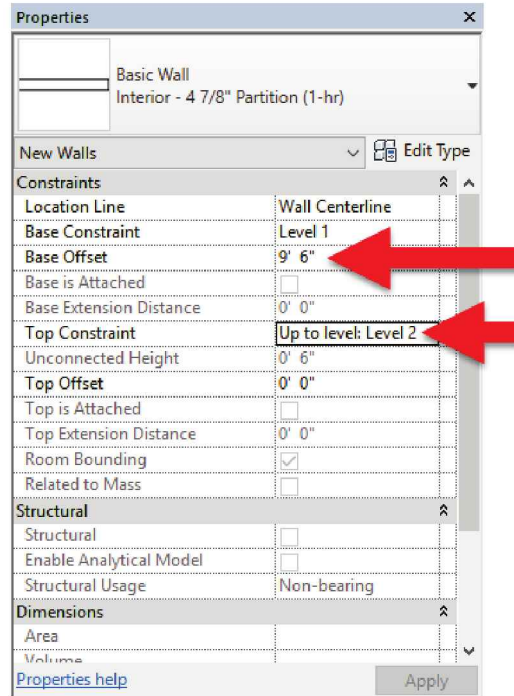

FIGURE 7-2.10 Bulkhead (wall) properties
31. Set the wall properties to **Interior - 4 7/8" Partition (1-hr)** and the *Base Offset* to **9'-6"**. (This will put the bottom of the wall to 9'-6" above the current floor level, Level 1 in this case.) (Figure 7-2.10)
32. Set the *Top Constraint* to **Up to level: Level 2** (Figure 7-2.10).